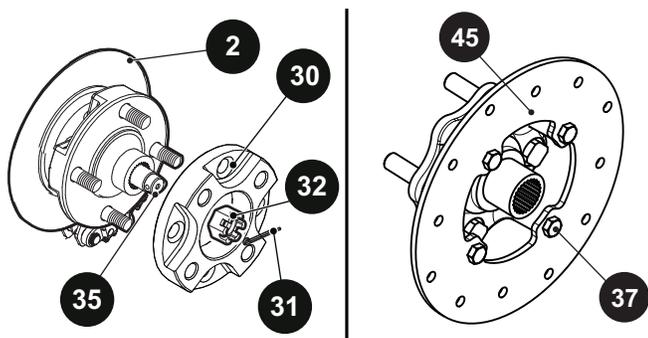

Fig. 5 Rotor
2. Remove the wheel spacer (30).
3. Remove the cotter pin (31) and castellated nut (32).
4. Pull the hub assembly (2) away from the axle (35).
5. Remove the four bolts (37) securing the rotor (45) to the hub assembly (2) (Ref. Fig. 5).